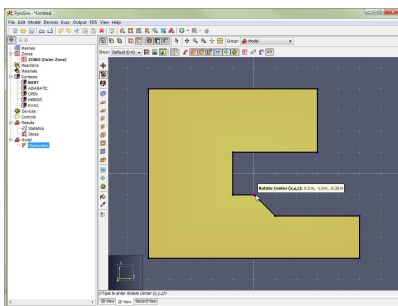

Figure 94. Click rotation center
3. Single-click to specify the rotation center ( Figure 94 ).